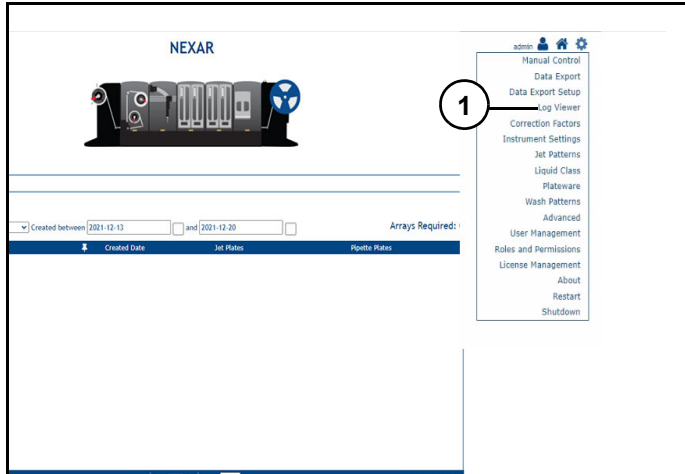

Figure 14
Log Viewer (1) (Figure 14): Opens log viewer page.